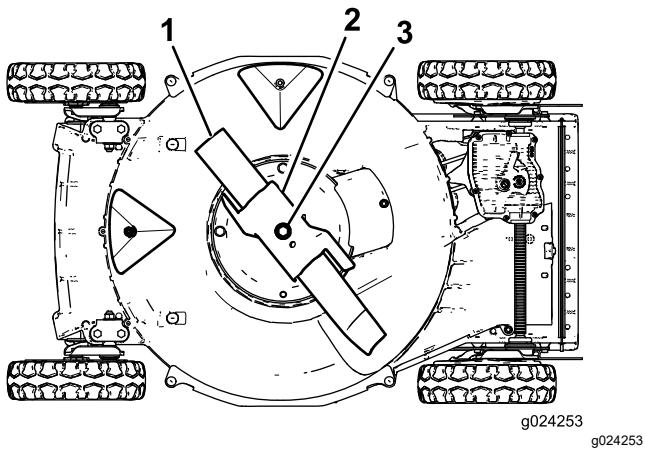

Figure 26
5. Tip the machine onto its **right** side (air cleaner up) as shown in Figure 26.